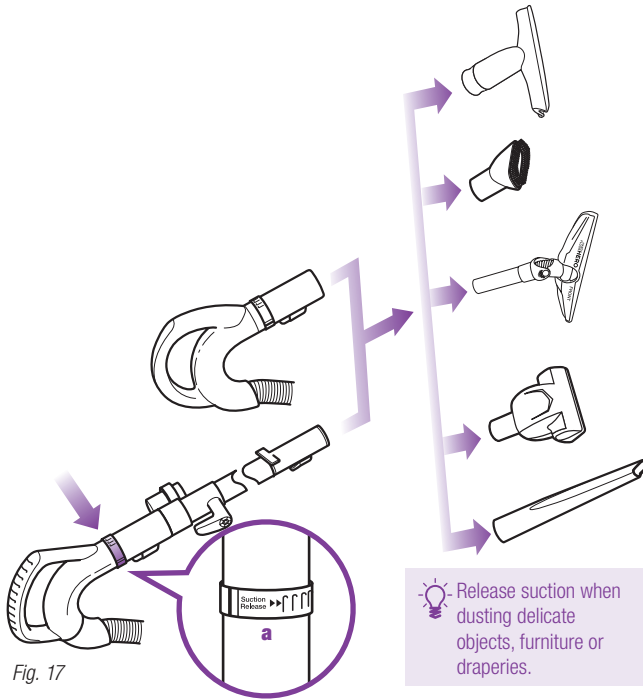

Fig. 17
- 2 Attach desired accessory onto the end of either the extension wand or the handle. (Fig. 17)
- 3 **Your vacuum has tremendous suction power. Adjust the amount of suction with the suction release on the handle. Open the valve (a) by rotating the collar 90° counter-clockwise for low suction when doing light jobs such as drapes or fine surfaces. Close the valve (a) by rotating the collar clockwise 90° for high suction and when using the hand held power brush. (Fig. 17-a)**